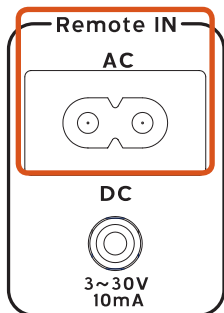

Fig. 3a
- A. Plug the C8 (Fig. 8 - female) end of the included Remote AC Control Cable into the “Remote AC IN” socket located on the back of the Power Console. (Fig. 3a)